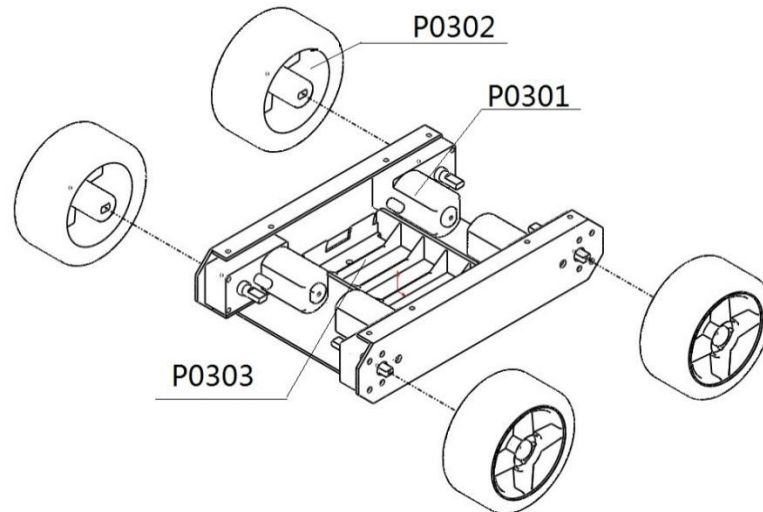

Figure 4-4
8. Figure 4-4; use the screws to connect the fuselage's lower plate and motor brackets.